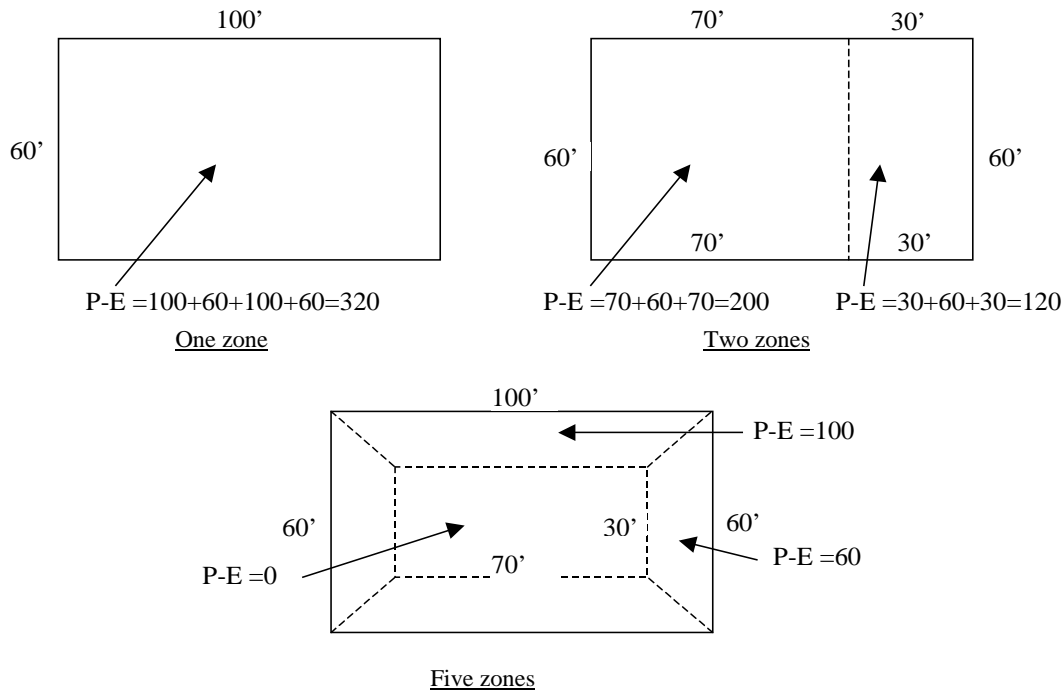
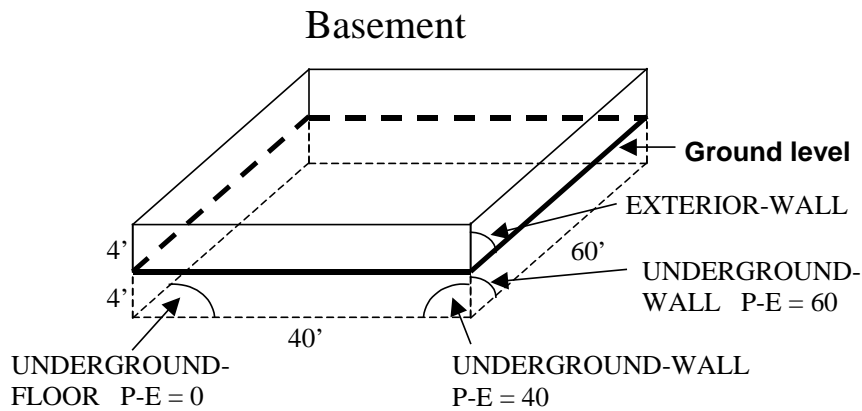

Figure 21 Exposed perimeter calculation for slab-on-grade examples. P-E corresponds to the PERIM-EXPOSED keyword.
Figure 22 Exposed perimeter calculation for basement. P-E corresponds to the PERIM-EXPOSED keyword.
2. Determine PERIM-EXPOSED, the length (ft or m) of the surface's perimeter that is exposed to the outside air. Figure 21 and Figure 22 show values of PERIM-EXPOSED for example foundation configurations. The heat transfer through an underground surface with no exposed perimeter, such as